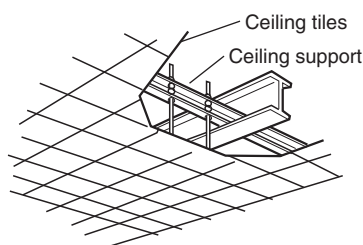

Fig. 2-109
- Use existing ceiling supports or construct a suitable support (Fig. 2-109).